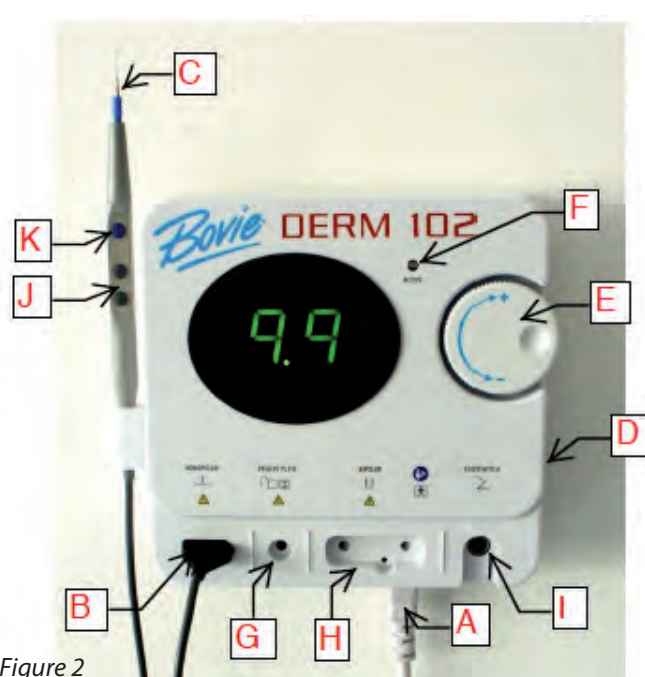

Figure 2
2. Plug the female end of the power cord into the base of the unit (see figures 2 and 3, letter A).
4. The monopolar output for the handpiece is on the lower left front of the unit (see figures 2 and 3, letter B). The handpiece plug is designed to fit in only one direction. Plug the connector from the handpiece into the
receptacle on the bottom of the unit (see figures 2 and 3, letter B). The three button handpiece is designed to give the doctor complete fingertip control of the power output settings.
5. Slide the standard electrode into the handpiece until it is firmly seated (see figures 2 and 3, letter C). The handpiece will accept most standard $\frac{3}{32}$ " electrodes.
7. Turn the unit power on utilizing the switch on the right side panel of the unit (see figures 2 and 3, letter D).
8. Set the power output either by using the dial on the front of the unit (see figures 2 and 3, letter E) or on Bovie® DERM 101/102 unit only by the up and down buttons on the handpiece (see figures 2 and 3, letter J). When power level adjustment is being made by the handpiece an audible tone will sound to indicate that the power level has been changed. Depressing and holding the up or down buttons will cause the power settings to change more rapidly for quick adjustment of the output settings. Power output is displayed in “.1” watt increments from 0.1 to 10 watts.
9. To activate the unit, remove the handpiece from the holder. Place the handpiece in the desired position and depress the activation button (see figures 2 and 3, letter K). When the unit is activated, an audible tone is sounded and the blue active light will illuminate (see figures 2 and 3, letter F).
10. To use the optional grounding plate with cord (A802EU), insert the plug of the cord into the grounding plate output (see figures 2 and 3, letter G) and connect the other end into the grounding plate. The plate should be placed underneath the patient at a point where the entire plate is covered by bare skin. The use of conductive gel is recommended.
11. To use the optional bipolar cord (A827V), insert the plugs into the bipolar outputs (see figures 2 and 3, letter H). The cord is then plugged into the forceps. A sliding gate behind the monopolar and bipolar outputs prevents the user from using both simultaneously.
12. The optional footswitch (A803) is plugged into the footswitch output and placed on the floor (see figures 2 and 3, letter I). The footswitch can be used with monopolar procedures and must be used with bipolar procedures.